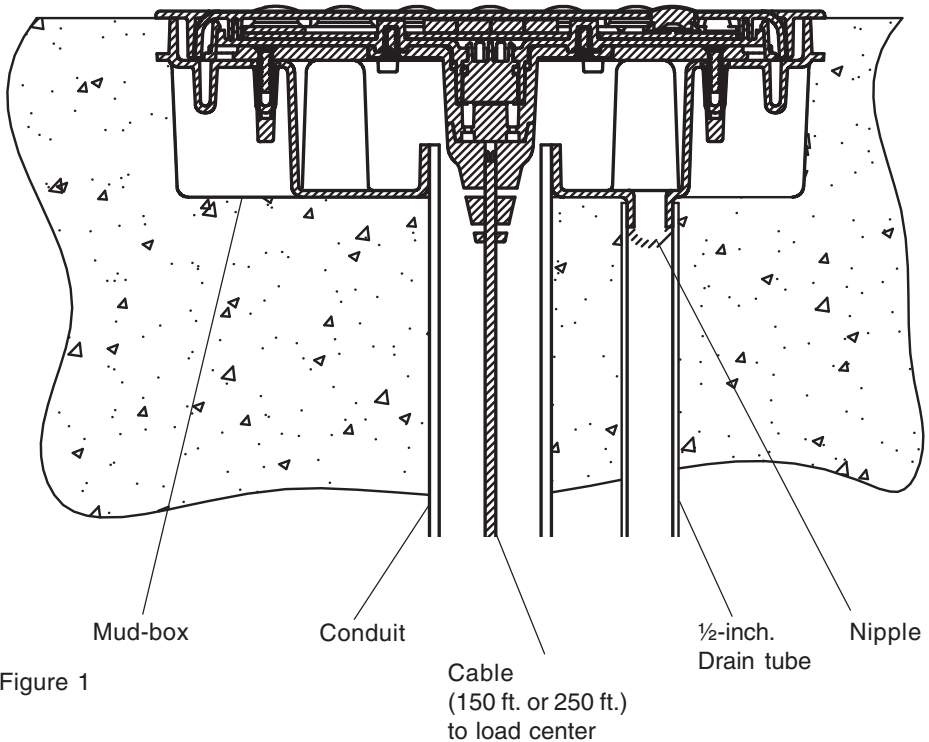

Figure 1
Prepare the mounting location near the spa: Install a one (1) inch conduit where the remote control is to be located (see Figure 1). Conduit may be reduced down to $\frac{3}{4}$ -inch or $\frac{1}{2}$ -inch after the first three (3) inches cast into the spa area. Be sure the conduit is perpendicular to the surface (90° angle). Run the conduit, using sweep elbows for turns from the spa to the low voltage raceway of EasyTouch® to IntelliTouch® control system load center.
Mount the mud-box over the conduit. Trim the conduit so that it just protrudes into the mud-box. The fit will be loose. Orient the mud-box so that the spa-side remote is square with the deck or spa wall (see Figure 1). Secure the mud-box and plumbing together using neutral cure caulking or RTV. Insert the mud-box cover (secure with two screws) until the deck or spa wall are finished, discard cover when completed (keep the screws for bracket installation).